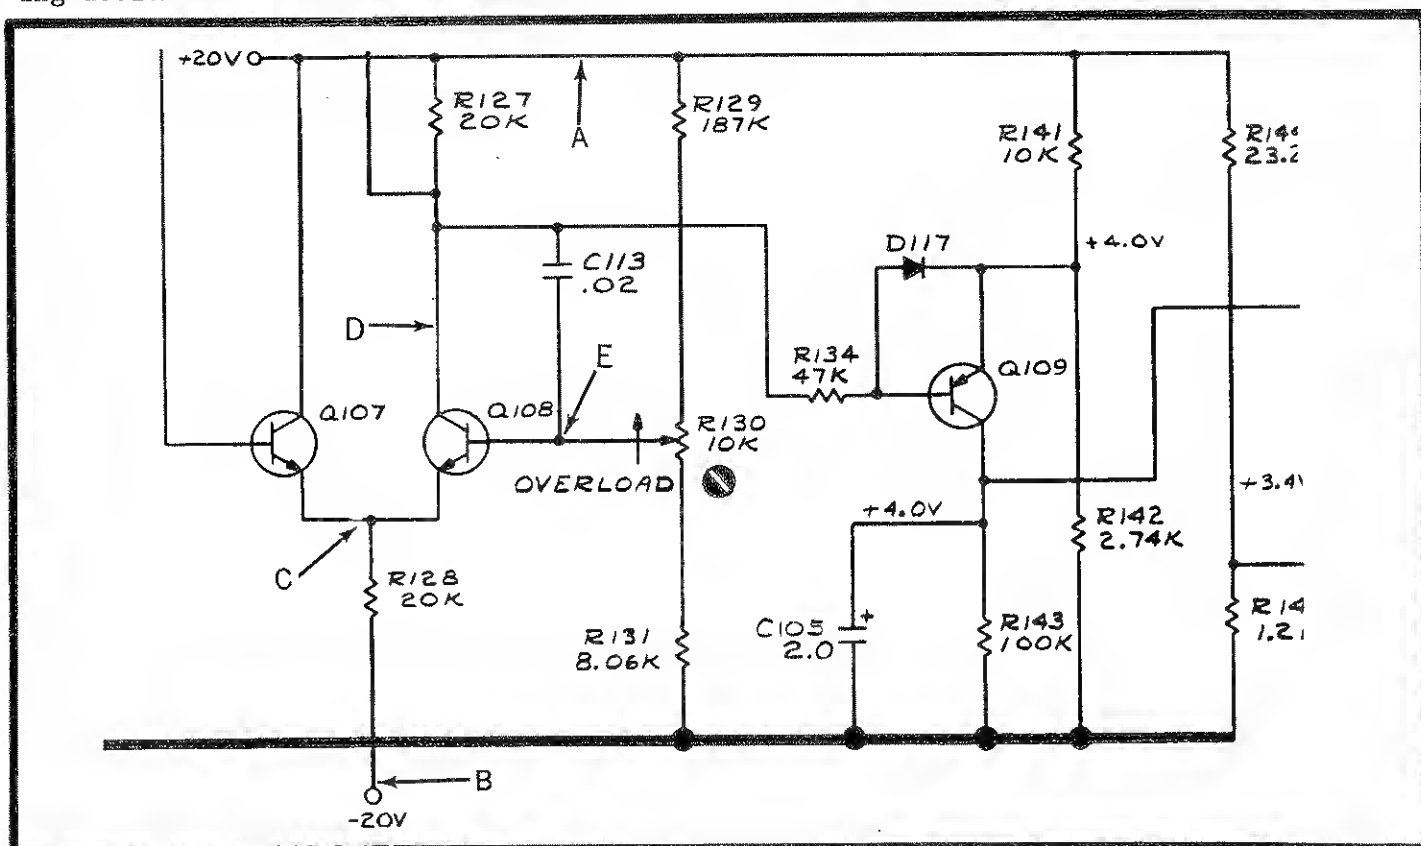

FIGURE 11. Voltage Points within Current Limit Circuit. Refer to Table 8 for values which depend upon the voltage at Points A and B.
These values were measured with the Model 153 to $\pm 15\%$. The Voltage Dials are set to 0000 and the POLARITY Switch to -. Voltages at points C, D and E depend on both zener voltages (D107 and D108). Zener Voltages range between 15 and 22 volts. The points G, D and E are indicated in Figure 11.
d. Voltages within the current limit amplifier vary considerably, depending upon the voltage across zener diodes D107 and D108. Nominally, the voltage at point A is +20 volts and at point B is -20 volts. Table 7 gives the approximate range for points C, D and E in Figure 11 for voltages within the limits of the zener if the instrument is working properly.